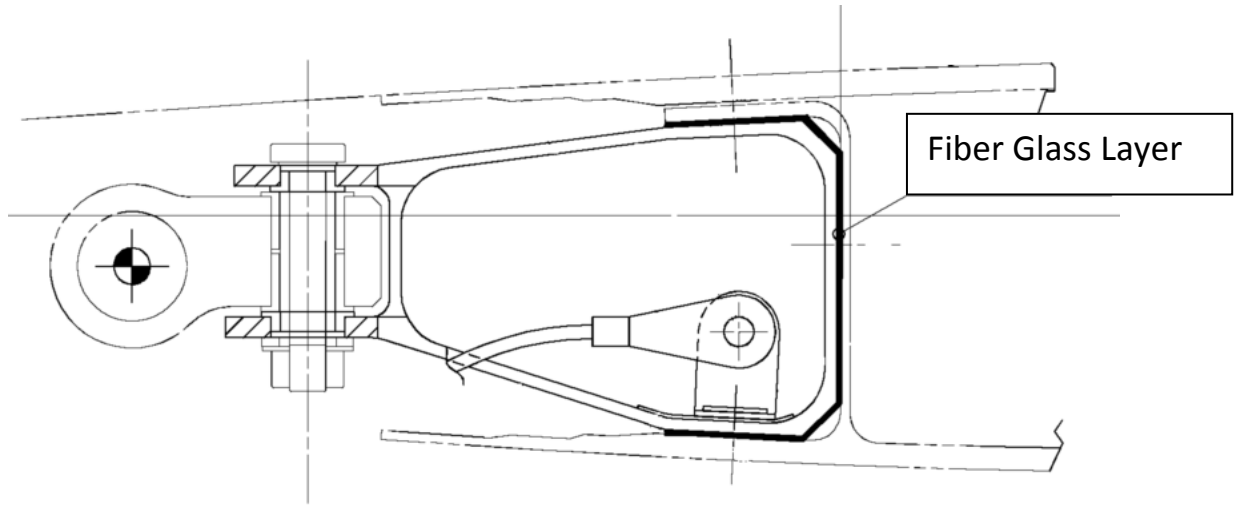

Fig.6 – Fiber glass layer installation
- 36 Apply the EA956A/EA956B resin on the fiber glass pad, using the nylon film envelope as detaching layer. Cut two rectangular patches (55mm x 105mm) for the external fitting and (55mm x 115mm) for the center one, and attach them on the fittings external surfaces (see fig. 6). Apply an appropriate pressure for the dry time (12h-18h).